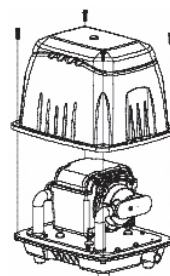

FIG. 2
1. Loosen the four screws around the aluminium upper cover, and take the cover off. *(As shown in figure 2)*